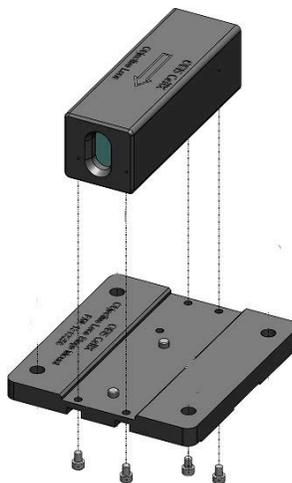

Figure 4-20. Objective Lens, Stage Mount Bracket, and Screws
1. Put the objective lens in the center slot of the lens stage mount (P/N 1313256), as shown in Figure 4-20.
2. Align the holes in the bottom of the objective lens with the mounting holes in the lens stage mount (bottom). Refer to Figure 4-20.